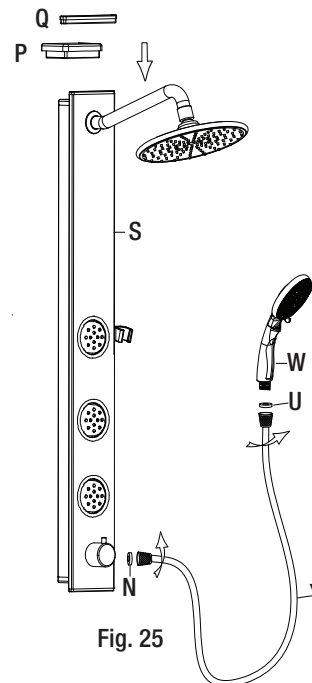

Fig. 25
- Replace top cover (P) and the stainless cover (Q) on the shower column (S), see Fig. 25.
- Attach long flexible shower hose (Y) to the column body (S) and handheld shower head (W) with rubber washers (N), (U). Check valve (X) comes pre-installed in handheld shower.